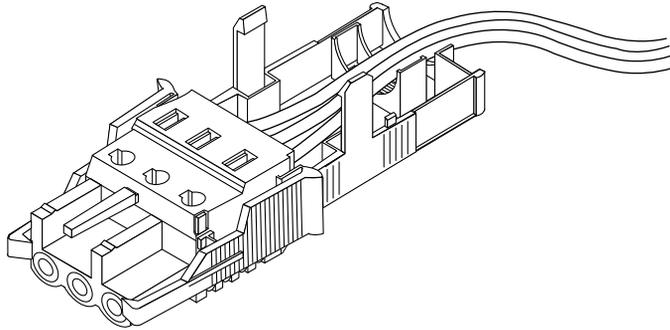

FIGURE 2-11 Routing the Wires out of the Bottom Portion of the Strain Relief Housing
2. Route the three wires coming from the back of the DC connector across the bottom of the strain relief housing and out through the opening at the right of the strain relief housing (FIGURE 2-11).